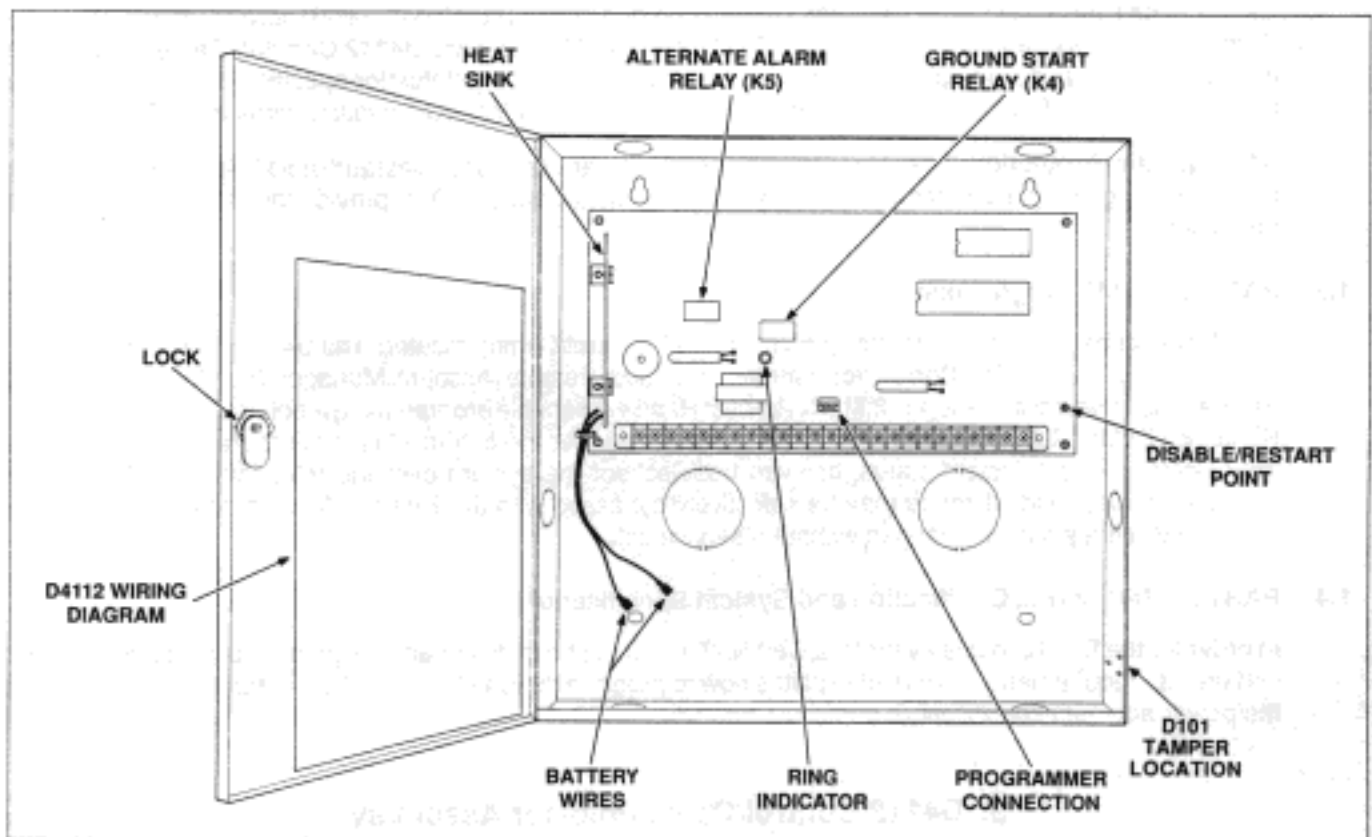
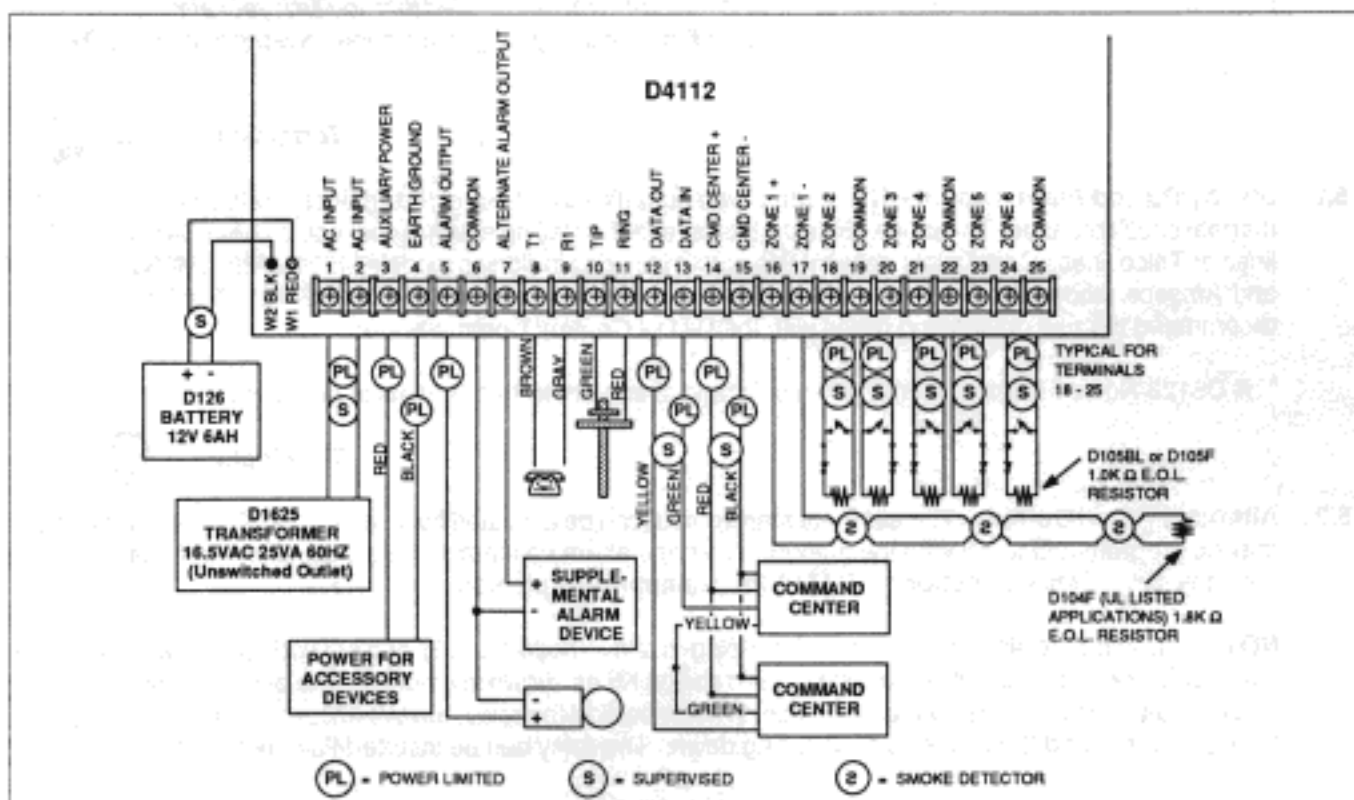
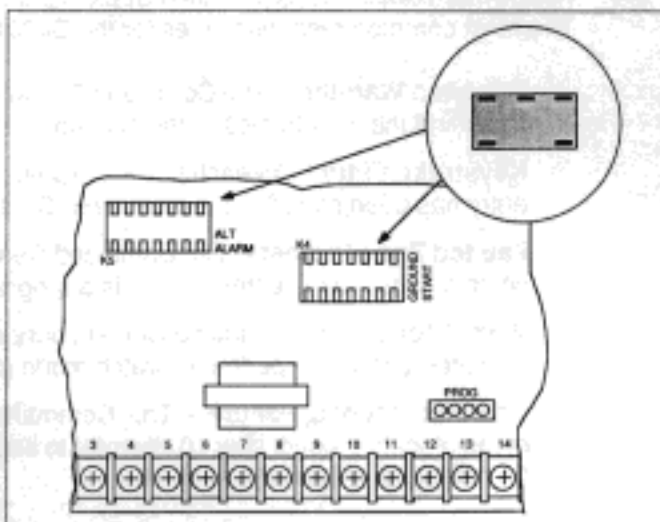

Figure 1: D4112 CONTROL/COMMUNICATOR ASSEMBLY
Figure 2: TYPICAL D4112 SYSTEM INSTALLATION
Figure 4: RELAY INSERTION
- 2.3 **Wiring Diagram** - Inside the D4112 enclosure is a wiring diagram label (see Figure 1). It also contains short descriptions of each terminal. Figure 2 displays a typical installation of the D4112 and accessories (for installing the D636A Command Center, refer to the *D636A Installation Instructions #74-05475-000*).
- 2.4 **Reset Point** - The D4112 disable/restart point is located in the lower right hand corner of the printed circuit assembly, to the right of the terminal strip (see Figure 1). Momentarily connect this point to terminal 25 (ground) to reset the Control/Communicator.
- D4112 Mounting:** Permanently mount the D4112 in an upright position (with P.C. board on top leaving room on the bottom for the battery) within the protected area (see Figure 4).
- Telephone:** Connect the D160 phone cord to the D4112, brown to terminal 8 (T1), gray to terminal 9 (R1), green to terminal 10 (T), and red to terminal 11 (R). The D160 is then connected into the premises phone line.
*NOTE: It may take as long as 12 hours to charge the battery. The battery should be charged prior to installation, or it can be connected at the beginning of installation, so that it can charge while the installation procedure is completed. A Jumper connected to the Disable/Restart point (see Figure 1) will disable the D4112 and still allow the battery to charge.
NOTE: The alternate alarm relay is an optional plug-in relay (model #D136), and it is *not* included with the control/communicator. The relay must be installed into socket K5 as shown in Figure 4. The plug-in relay has two legs on one side and three legs on the other side. When inserting the relay, always ensure that the three leg side is facing upwards and the two leg side is facing down. The relay can be inserted flush right or left.
- 6.6 Ground Start Systems** - Some telephone systems require a momentary ground to initiate dial tone. To interface with a ground start system, a plug-in relay (Radionics model #D136) must be installed into socket K4 as shown in Figure 4.
7.7 Installing a D420A Command Center - The cable used to connect the Command Center to the D4112 can run no longer than a total combined length of 1000 feet when using 22AWG. A single D420A may be installed a maximum of 500 ft. from the D4112. Figure 2 depicts a typical installation using two D420A Command Centers.